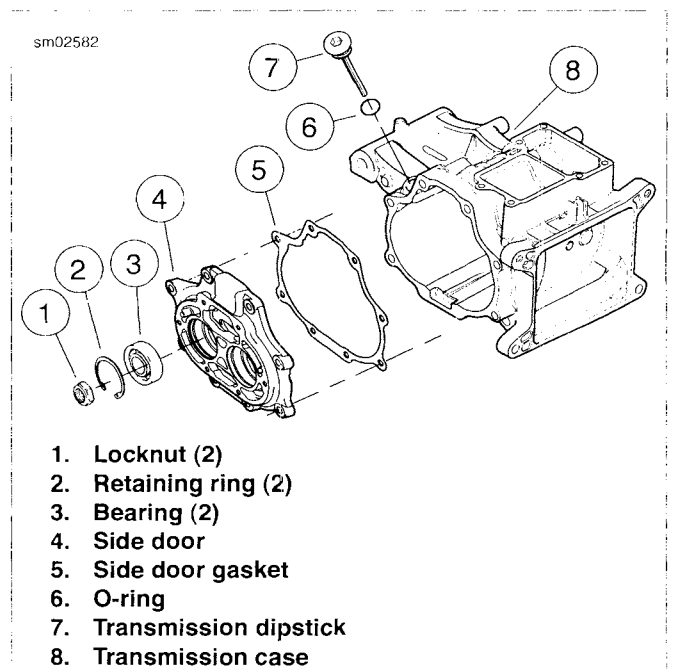

Figure 6-23. Side Door Bearings
1. See Figure 6-23. Remove the retaining rings (2).
4. See Figure 6-23. Install beveled retaining ring (2) with the flat side next to the bearing.